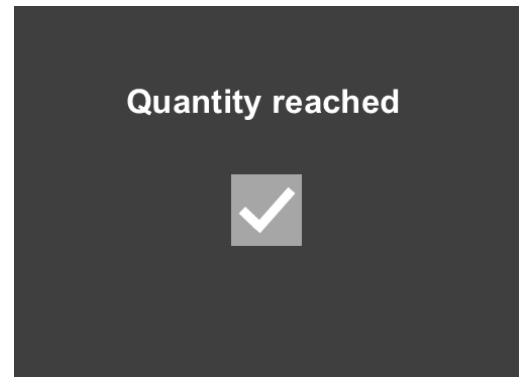

Figure 8.4.8
6. When the defined quantity is reached, an information message appears on the display, which must be confirmed by touching it. See Figure 8.4.8.